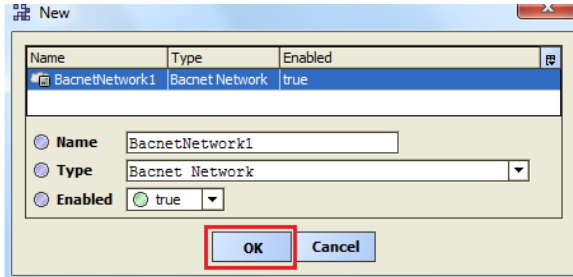

Figure 22: Adding specification to add BACnet Network
- Next, a new window will appear, showing 'Name', 'Type' and 'Enabled'(keep its value to 'True'). Refer to Figure 22.